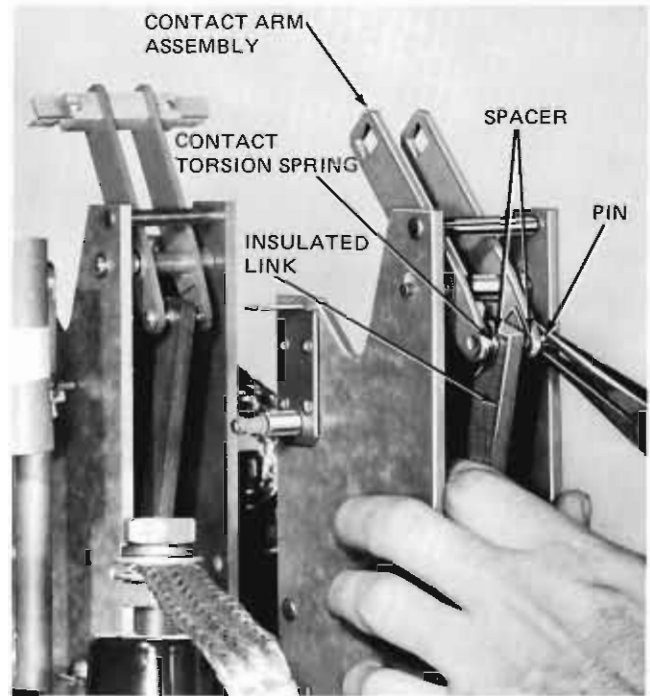

Figure 12
5. Remove C ring and withdraw pin that connects the insulated link and moving contact arm as illustrated in Figure 12. Contact torsion spring and two spacers will also be released.